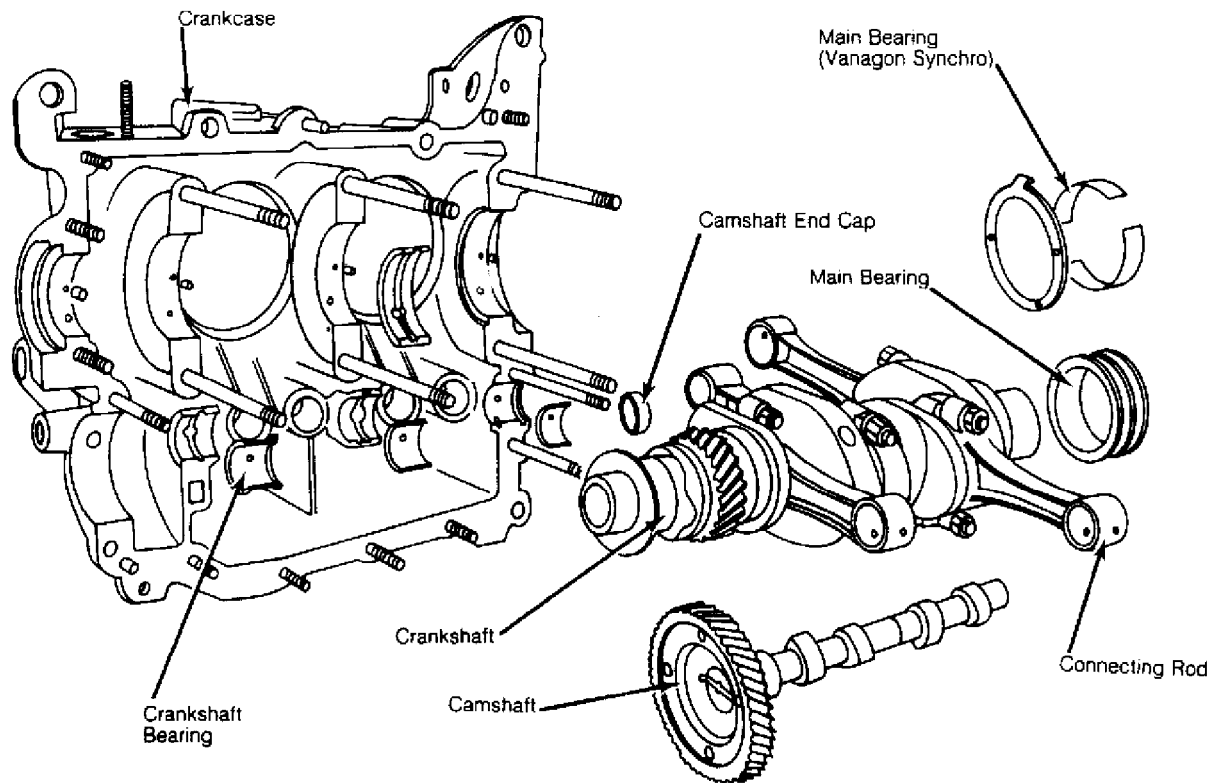

Fig. 9: Exploded View of Crankcase, Crankshaft & Camshaft Assembly
5) Separate crankcase halves. Use a rubber mallet if necessary. DO NOT use pry bars or levers between crankcase halves, oil leaks will occur. Lift camshaft from crankcase. Remove crankshaft and connecting rods as an assembly. See Fig. 9.